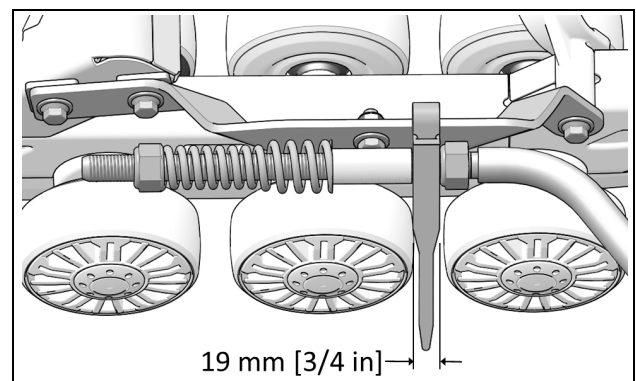

Figure 14
- **IMPORTANT:** Double-check 19 mm minimum distance between nut and stabilizing arm guide. Re-adjust as needed. See Figure 14.